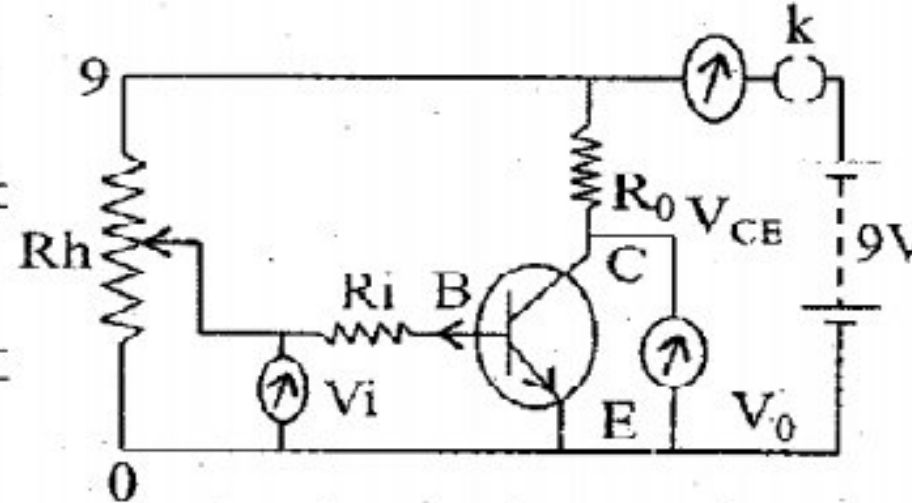

Fig. 15.6
To obtain voltage gain A_v from a transistor a load resistance R_0 is to be connected in series with the collector and a suitable resistance R_i in series with the base. To determine the voltage gain a circuit shown in Fig. 15.6 is used. Briefly, the voltage gain A_v produced by the transistor can be found as given below.
- (i) To determine the voltage gain A produced by the transistor with 1k ohm load resistance R_0 , connect the circuit as shown in Fig. 15.6. Keep the wiper of rheostat at zero. Keep $R_1=4k\Omega$.